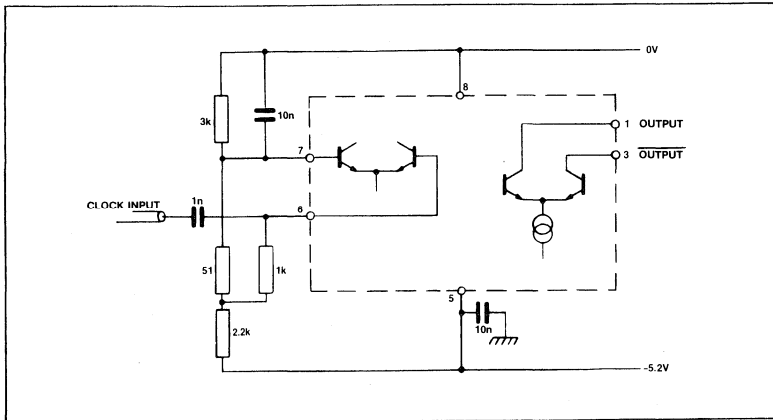

Fig.6 Biasing to prevent oscillation under no signal conditions
2. If no signal is present the device will self-oscillate. If this is undesirable this can be prevented by offsetting the two inputs by approximately 40mV as shown in Fig. 6.